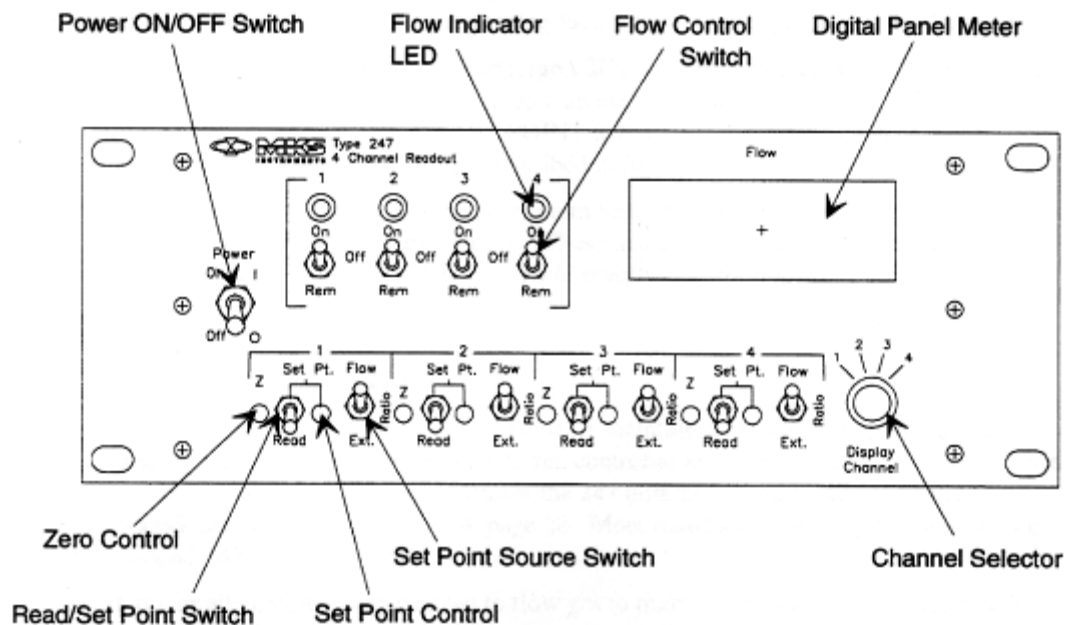

Figure 11: MKS Type 247 4 Channel MFC Controller
- 6.2.3 On the MKS Type 247 4 Channel control, the **Flow Control Switches** and the **Power** switch should be in the **OFF** position as shown in Figure 11 (**Panel #17**).
- 6.6.10 Turn **ON** the **POWER** switch on the MKS Type 247 4 Channel control by pulling out on the switch and then pushing up. The gas switches should be in the **OFF** position (Panel #17) as shown in **Figure 11**.